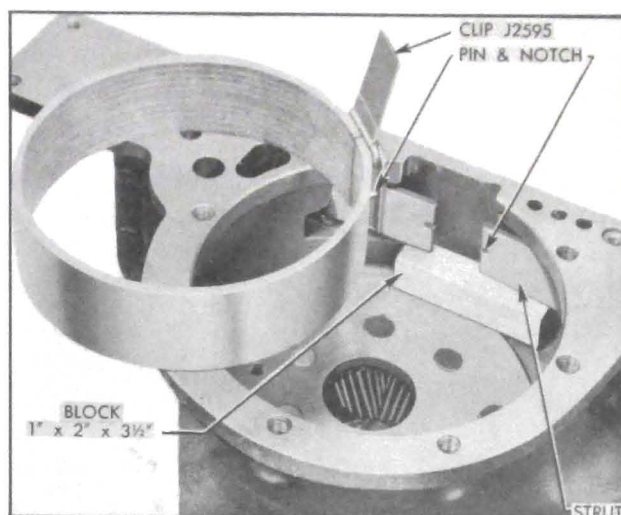

Figure 5-90—Installation of Low Band and Struts
3. Compress ends of low band with Band Installing Clip J 2595 (fig. 5-90). NOTE: A used band must be reinstalled in original position—heaviest wear will be at anchor end. A new band can be installed either way.